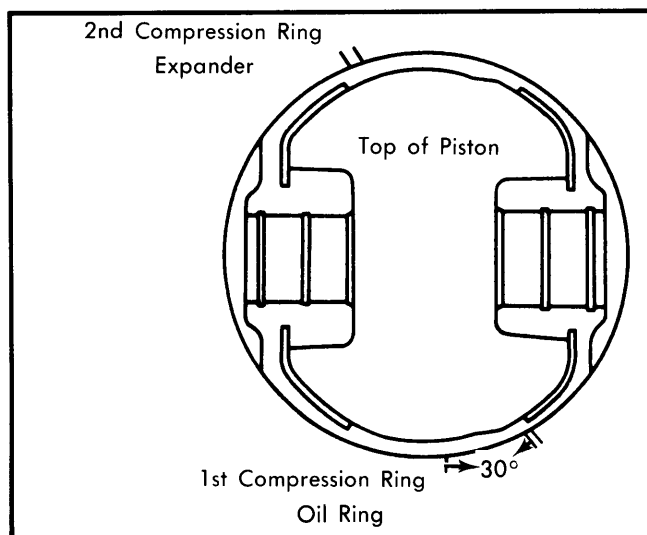

Fig. 6 Piston Ring Gap Location
2) With ring gaps set correctly, See Fig. 6, use piston installer to push piston into cylinder until connecting rod is contacting crank pin. Notch on piston must face front of engine. Use a piece of wood to push piston fully into bore.